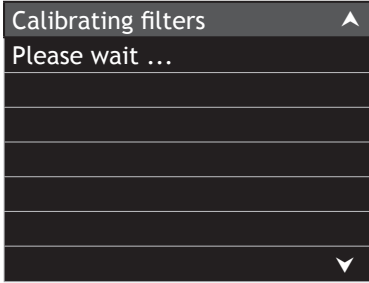
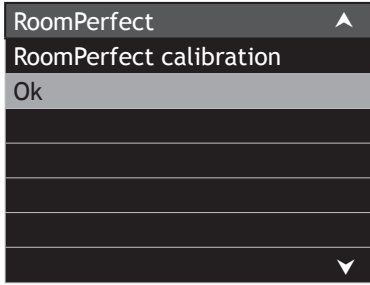

Figure 43
Figure 44
- 12. It will take several minutes to calibrate the filters for each of the Loudspeakers in the system. Refer to figure 43. When the filters have been set, the On-Screen will indicate “RoomPerfect calibration”. Refer to figure 44. Press the SELECT Push-button to exit RoomPerfect. Press the SETUP Push-button to return to the previous Menu or